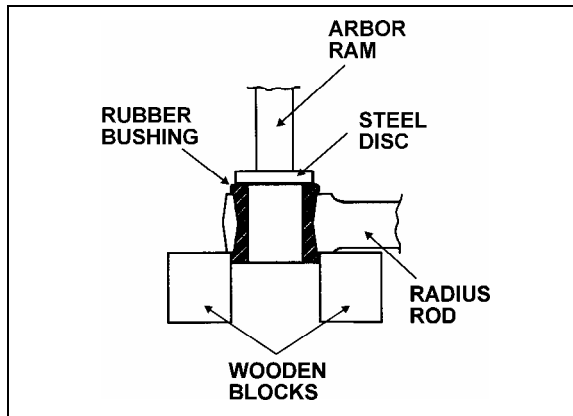

FIGURE 8: RADIUS ROD BUSHING REMOVAL 16011
1. Safely support the radius rod as shown in figure 8.
2. Place a flat steel disc, slightly smaller than the outside diameter of the bushing (Fig. 8).